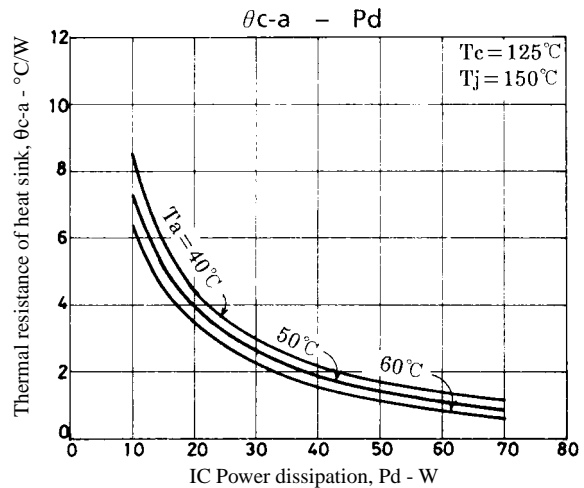

Figure 3. STK4171V θc-a – Pd
Figure 3 shows the relation between Pd and θc-a given from (1) and (3) with Ta as a parameter.
The thermal resistance of a heat sink is obtained from Figure 3.